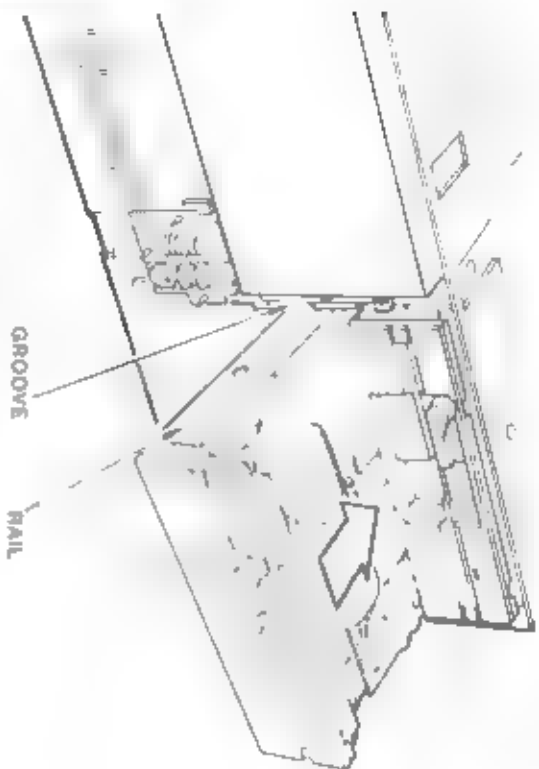

Figure 11-9 Installing the Drive
2. A bracket which is attached to each side of the sketched drive with the groove in the frame will be hung up on the sides of the drive in general. Figure 11-9. Be sure that any cables or wires are out of the way and do not prevent the drive from being fully inserted.